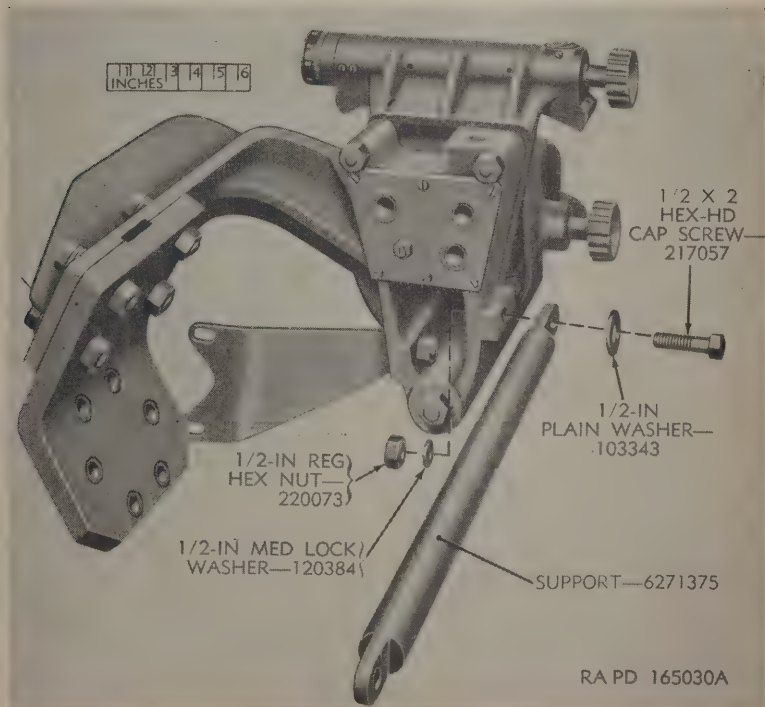

Figure 56. Telescope mount M52C—removal of support.
a. *Support (Telescope Mount M52C Only)* (fig. 56). Remove the hex nut that secures the support to the upper mounting bracket. Remove the lock washer, extract the hex-head cap screw and slide the plain washer from the cap screw.